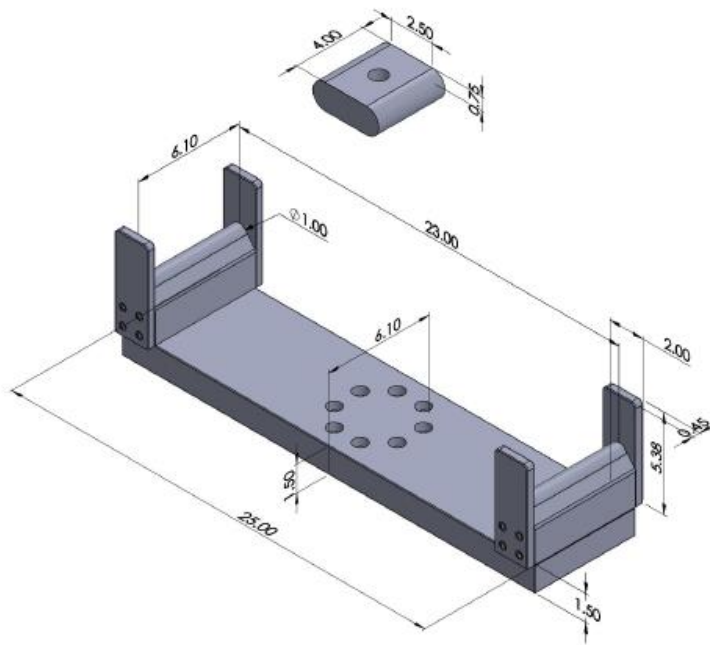
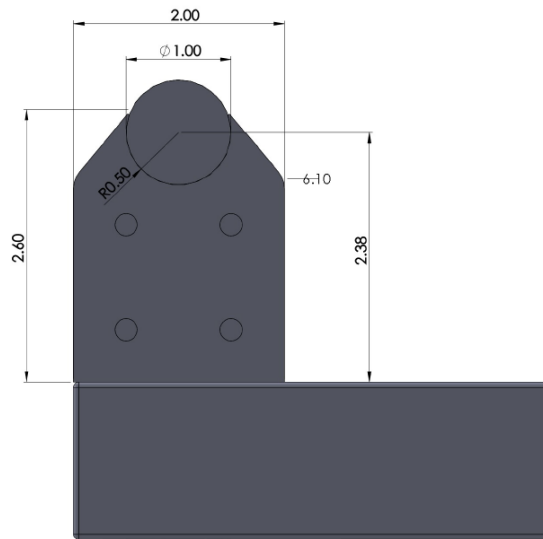

Figure 6. Loading Fixture with Bridge
Figure 7. Lower Contact Point
5.3. Equipment. The fixture consists of a base and loading block, shown in Figure 6. Dimensions for the lower contact points are further dimensioned in Figure 7. The corresponding load case is depicted in Figure 7. The fixture will be installed and oriented prior to the competition; adjustments are permitted during the competition.